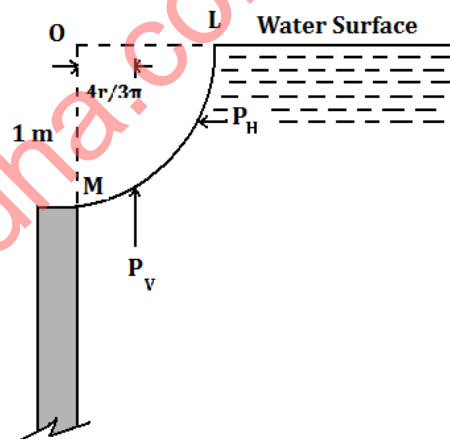

Fig. 2
- (b)** Fig. 2 shows a gate having a quadrant shape of radius of 1 m subjected to water pressure. Find the resultant force and its inclination with the horizontal. Take the length of gate as 2 m. **07**